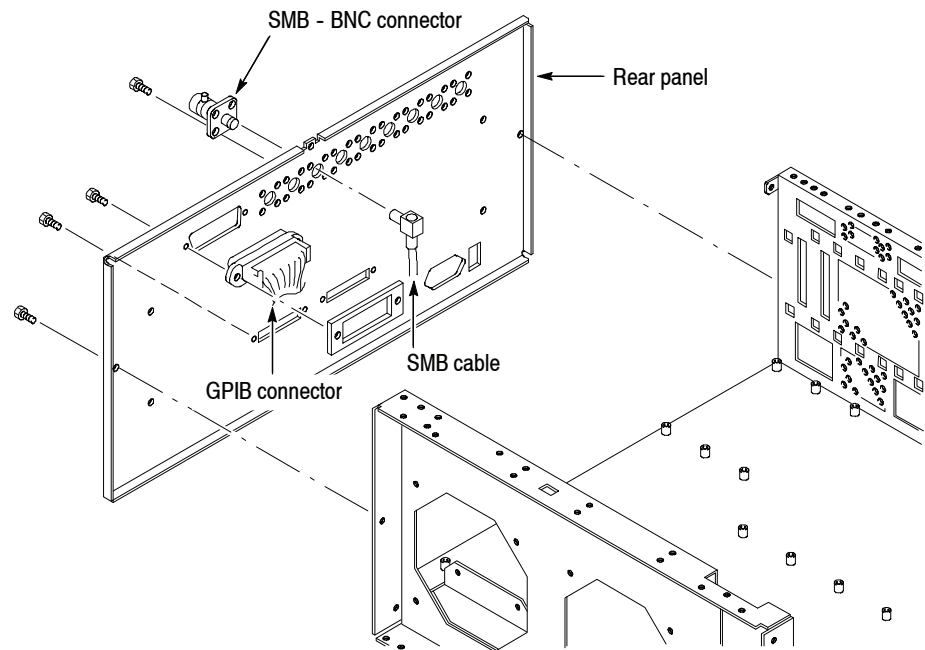

Figure 5-33: Rear panel removal
3. *Remove the SMB-BNC connector:* See Figure 5-33.
- 4.** *Remove the GPIB connector:* See Figure 5-33.